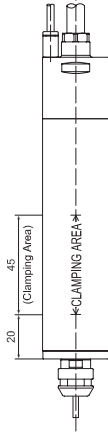

Fig. 13
① When mounting a Motor Spindle, refer to the Clamping Area etched on the Motor Spindle (Fig. 13).